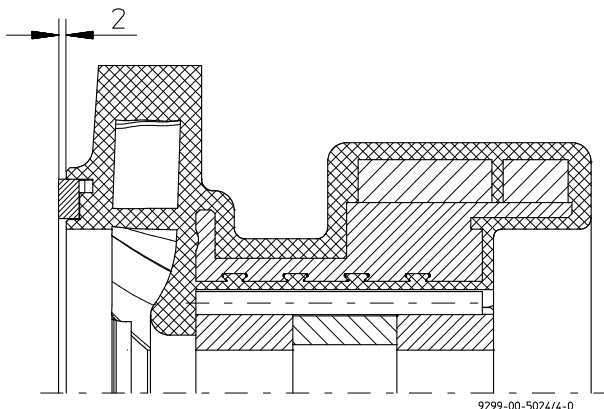

Fig. 9
- Check whether the thrust ring protrudes about 2 mm out of the impeller assembly. See **Fig. 9**.